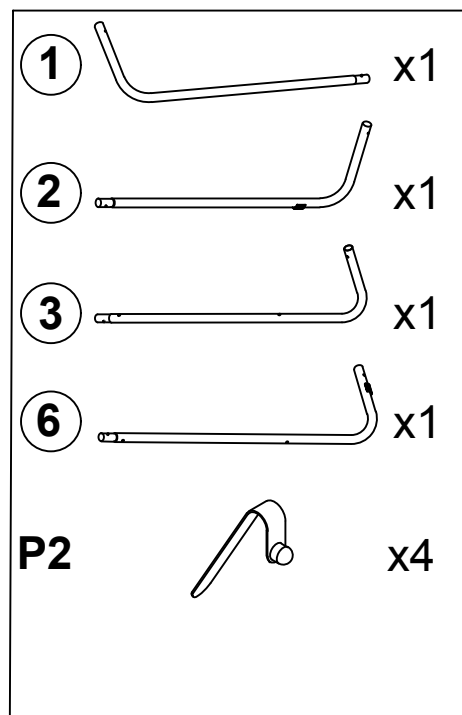

Fig 1
1. Connect Tube(#1), Tube(#2), Tube(#3) and Tube(#6) as shown FIG.1. Pay attention to press the Spring Buckle (P2)